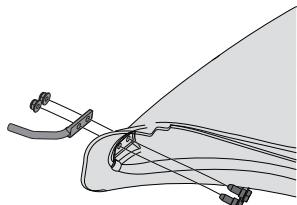

Figure 17
1. From the inside of the boot, put two hex head shoulder screws (738-1225) through the holes at the bottom front of the boot. See Figure 17.
2. Put the mounting rod (747-06043) in place over the hex head shoulder screws. Make sure the tip of the rod is facing out from the boot. See Figure 17.
3. Begin threading the hex nuts (712-04064) onto the hex head shoulder screws. See Figure 17.